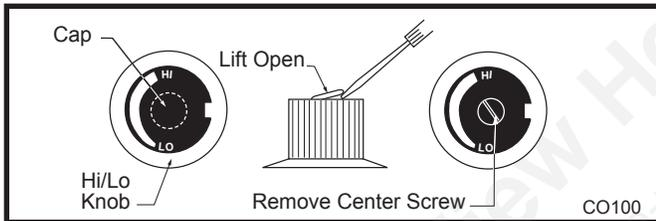

Fig. 63 Remove center screw from Hi/Lo knob.
1. Remove cap from HI/LO knob. This can be accomplished by lifting the plastic cap off the screw. (Fig. 63)
2. Remove the screw from center of HI/LO knob with small screwdriver turning counterclockwise. (Fig. 63)